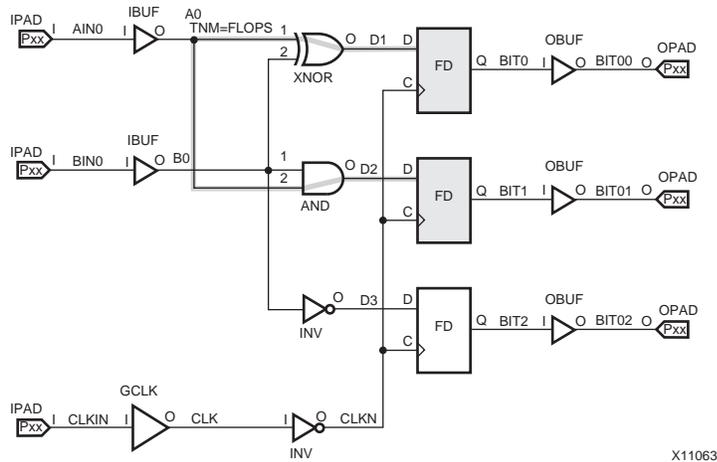

Figure 3-3: TNM on the CLK Net Traced Through Combinatorial Logic to Synchronous Elements (Flip-Flops)
- Figure 3-3, TNM on the CLK Net Traced Through Combinatorial Logic to Synchronous Elements (Flip-Flops)